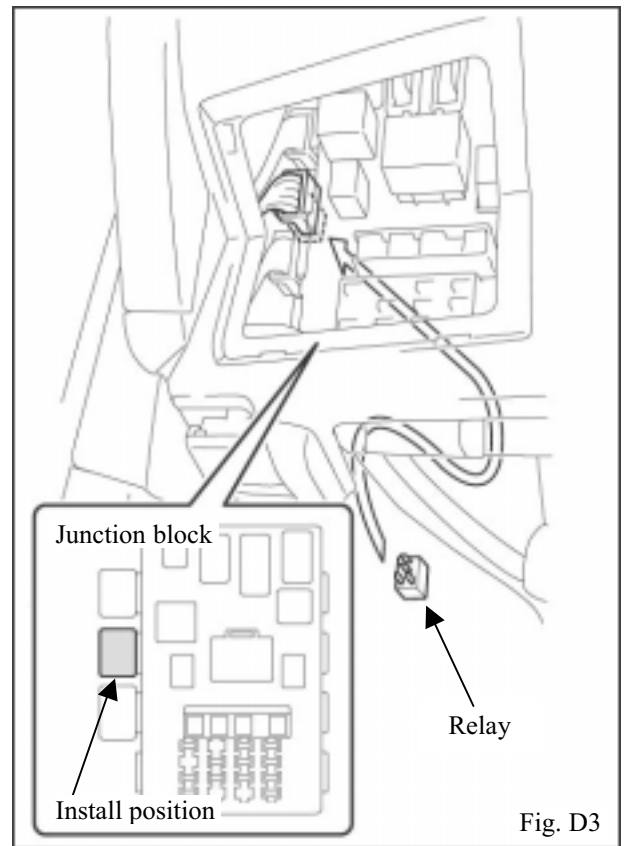

Fig. D3
6. Determine proper relay location. (Fig. D3)
7. Install kit supplied relay into the relay block. (Fig. D3)